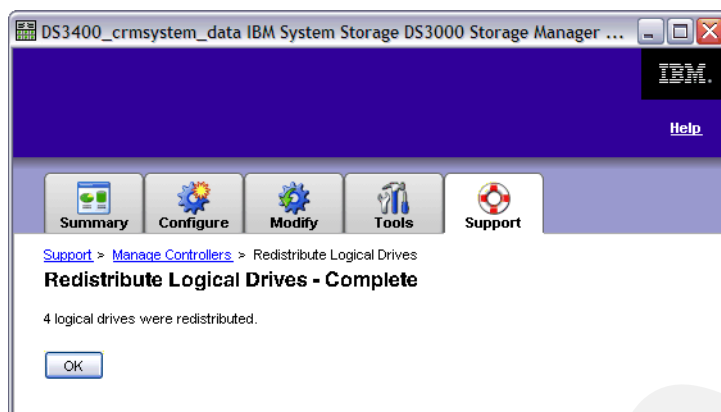

Figure 14-45 Redistribute Logical Drives - Complete
3. Click **OK** and you will get a confirmation that all logical drives have been redistributed successfully (Figure 14-45).